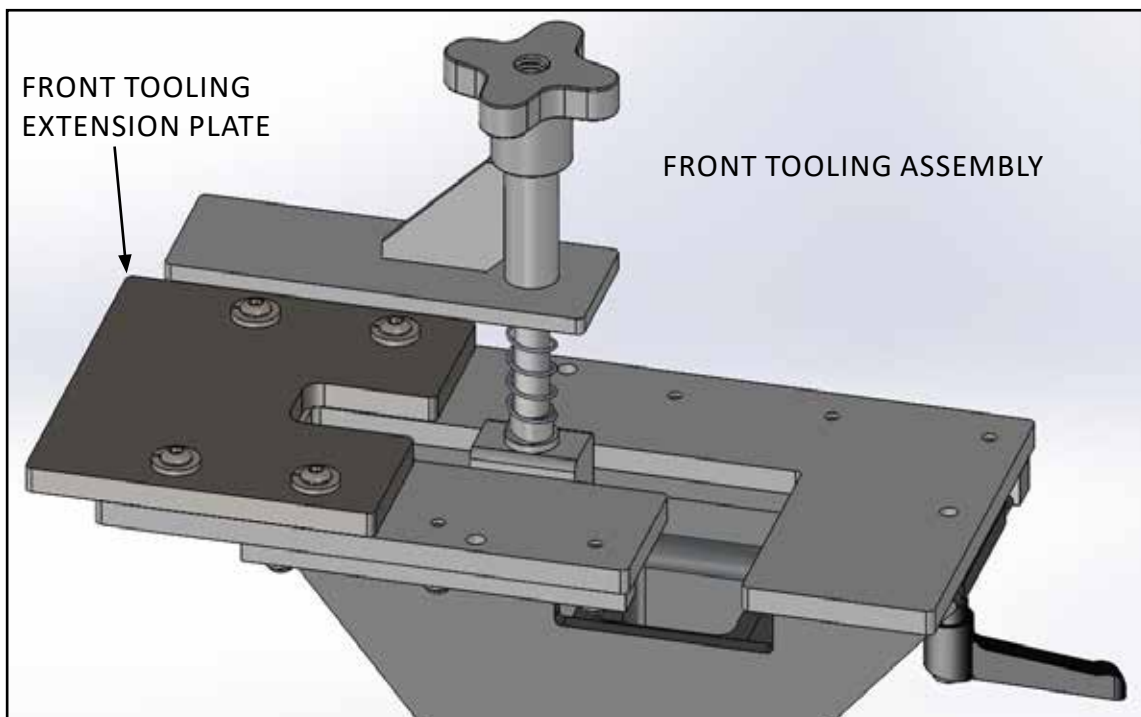

FIG 1: FRONT TOOLING EXTENSION PLATE mounted to FRONT TOOLING ASSEMBLY.
3. Align the four holes of the FRONT TOOLING EXTENSION (6339226) to the FRONT TOOLING TOP PLATE, as shown in FIG. 1.